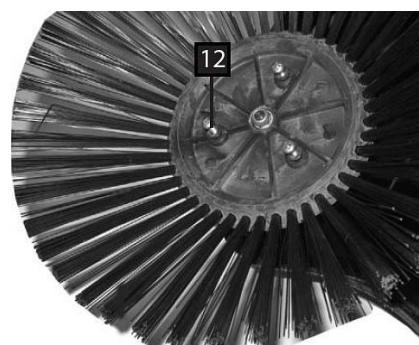

Fig. 5: Assembly of the feed brushes
- Step 3: Fasten the feed brushes with the screws (Pos. 12, Fig. 5) to the pick-up plates at the bottom of the unit.